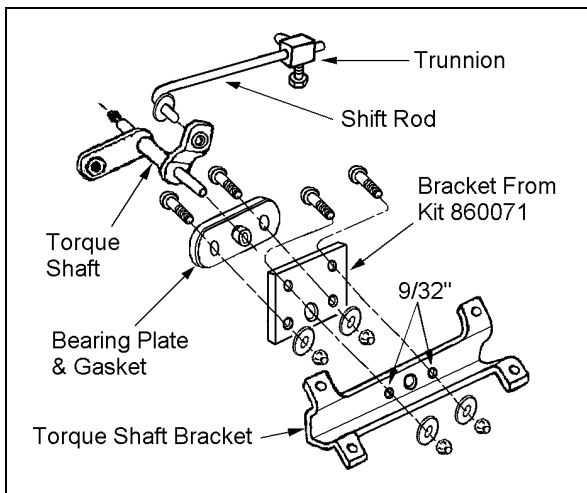

Figure 14
4. Attach the shift relocating bracket (from kit 860071) to the torque shaft bracket as shown in figure 14. Use the hardware from kit 860071.
5. Attach the bearing plate, with gasket, to the shift relocating bracket. See figure 14.